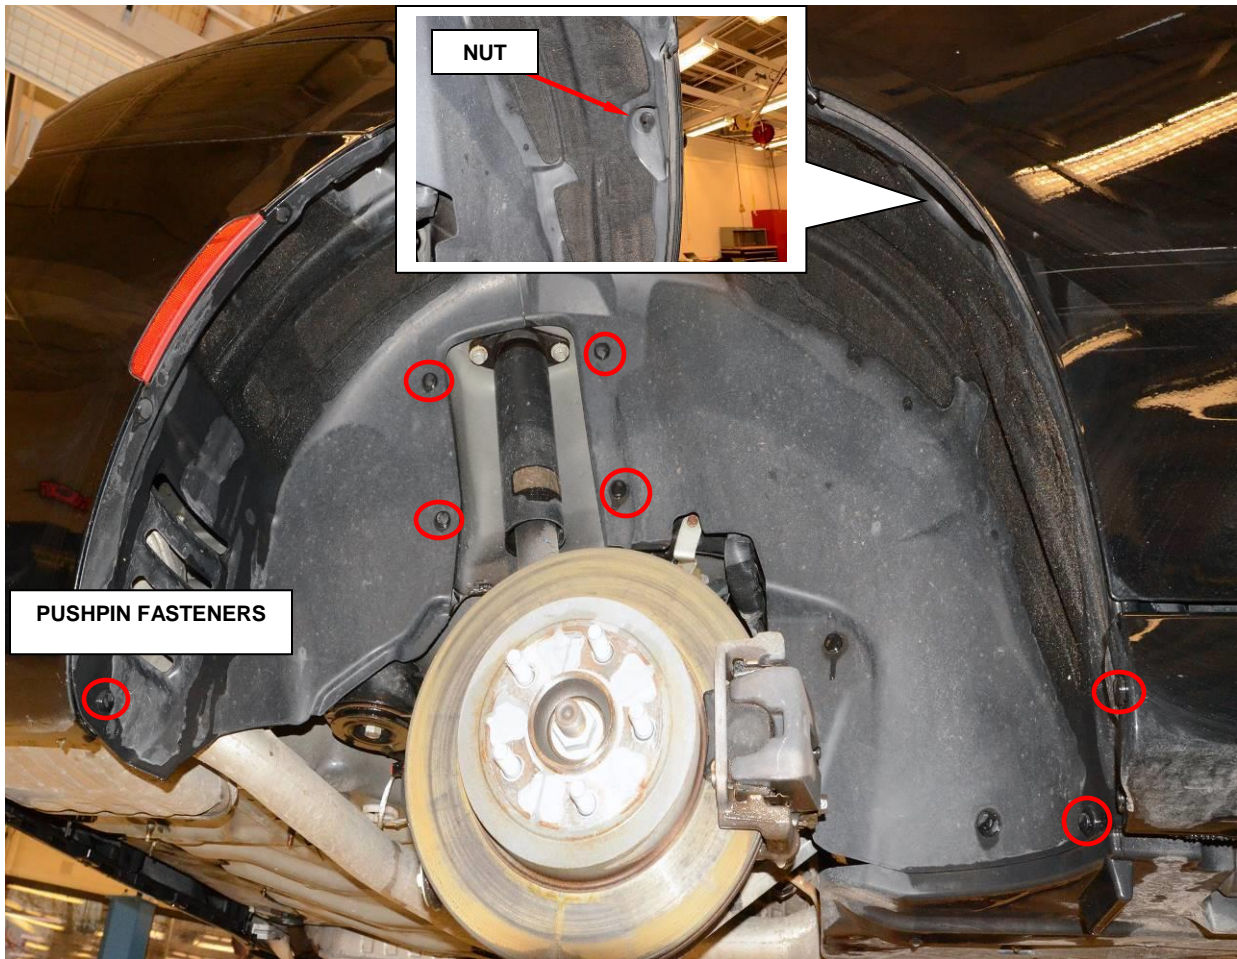

**Figure 1 – 12 Volt Battery**
2. Disconnect the negative battery cable, if equipped with an Intelligent Battery Sensor (IBS), disconnect the IBS connector to the negative battery (Figure 1).